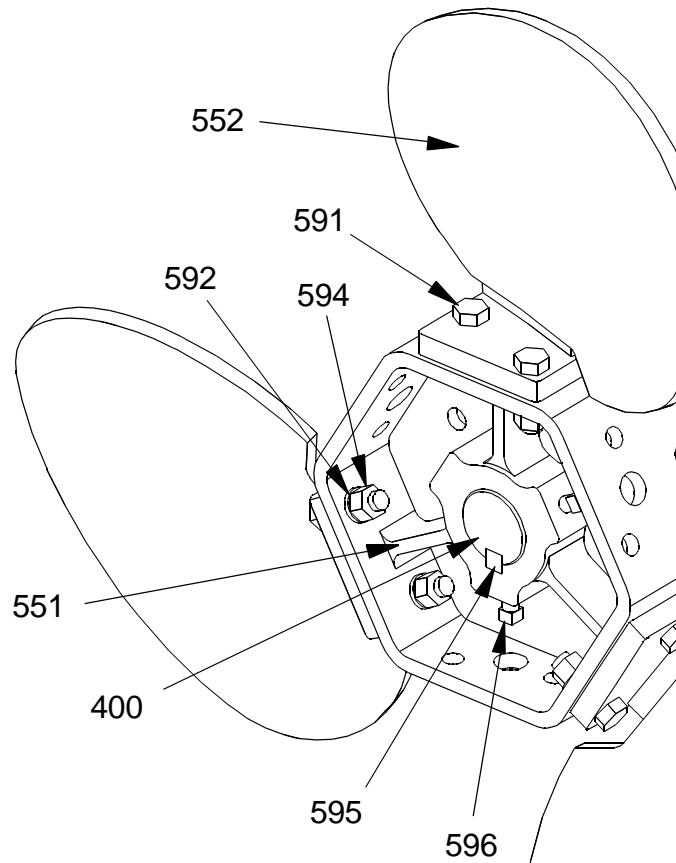

Figure 5: Maxflo Mark II Bolted Blades
1. Install the key (595) in the keyway at the end of the shaft (400). *See Figure 5, page 12.*
2. Slide the hub (551) onto the end of the shaft (400) with the key (595) in position. One side of the hub is marked “**This Side Toward Drive**” and goes on the shaft first. Tighten the four setscrews (596) to the torque values shown in **Table 17** or **Table 18**, on pages 76 and 77. The tapped holes for the setscrews have been made with a self-locking (Spirallock[®]) thread. Auxiliary locking fasteners are not necessary. The setscrews must be tightened to the prescribed torque values to function properly.
3. Bolt the blades (552) to the hub in their match marked positions. Use the bolts (591), lockwashers (592), and hex nuts (594) as shown in **Figure 5** on page 12. Keep the bolt heads on the outside of the blade attachments. Torque all fasteners to the recommended values, **Table 17, page 76** or **Table 18, page 77.**